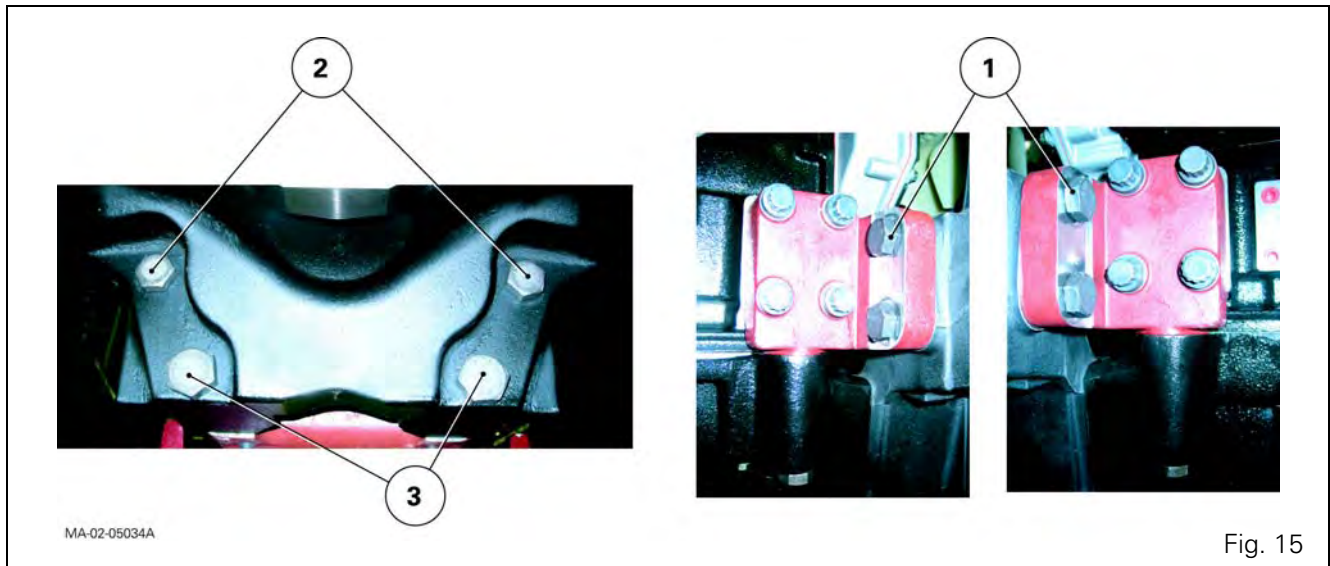

Fig. 15
27. Fit and tighten the diametrically opposed screws (Fig. 15) in the following order:
- Screw (2): 480 -640 Nm.
- Screw (3): 800 -1040 Nm.
- Screw (1): 240 -320 Nm.